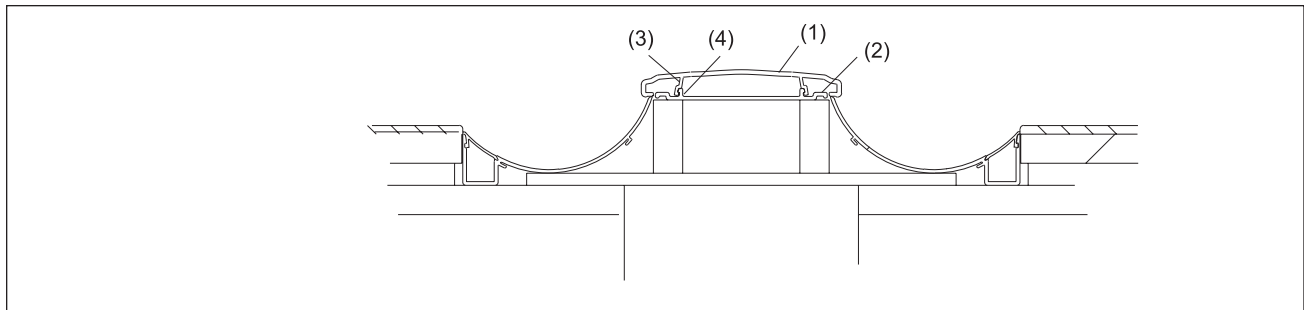

Figure 26. Snap Capping Into Place
- a. Align the capping section with the ears on the capping clip. Snap the capping into place. Continue this procedure toward the pin deck. Refer to *Figure 26*.